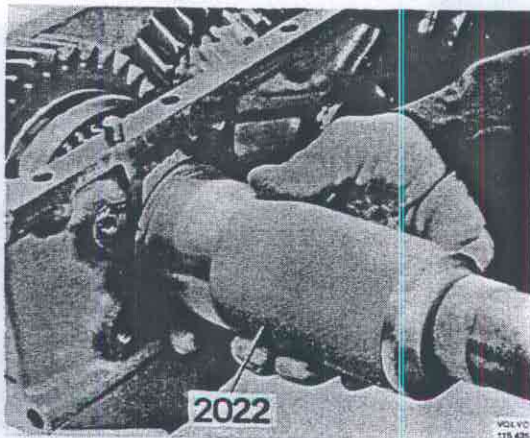

Fig. 43-196. Driving in outer race
10. Drive in the outer race for the output shaft front bearing with 2022, Fig. 43-196. The race should lie about 2 mm (0.08") on the inside of the housing.